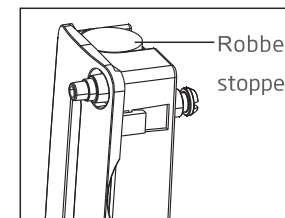

Figure 10
- (2) Remove the rubber stopper (Figure 10).